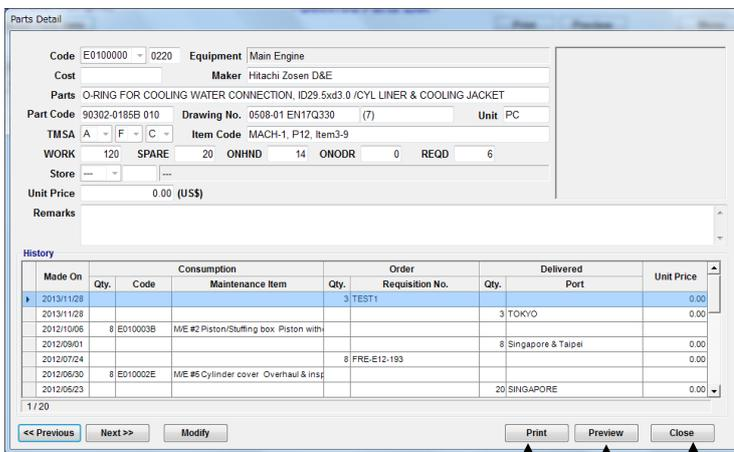

Fig.9-6 Parts Screen
- (17) “Parts Screen ”(Fig.9-6) is displayed.